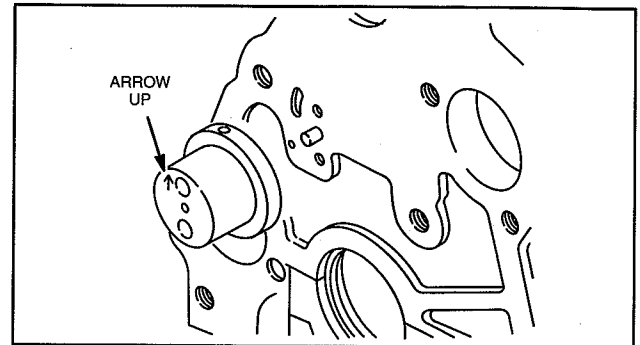

Fig. 18 - Installing Idler Gear Shaft
4. Assemble idler gear shaft with arrow up, as shown in Fig. 18.